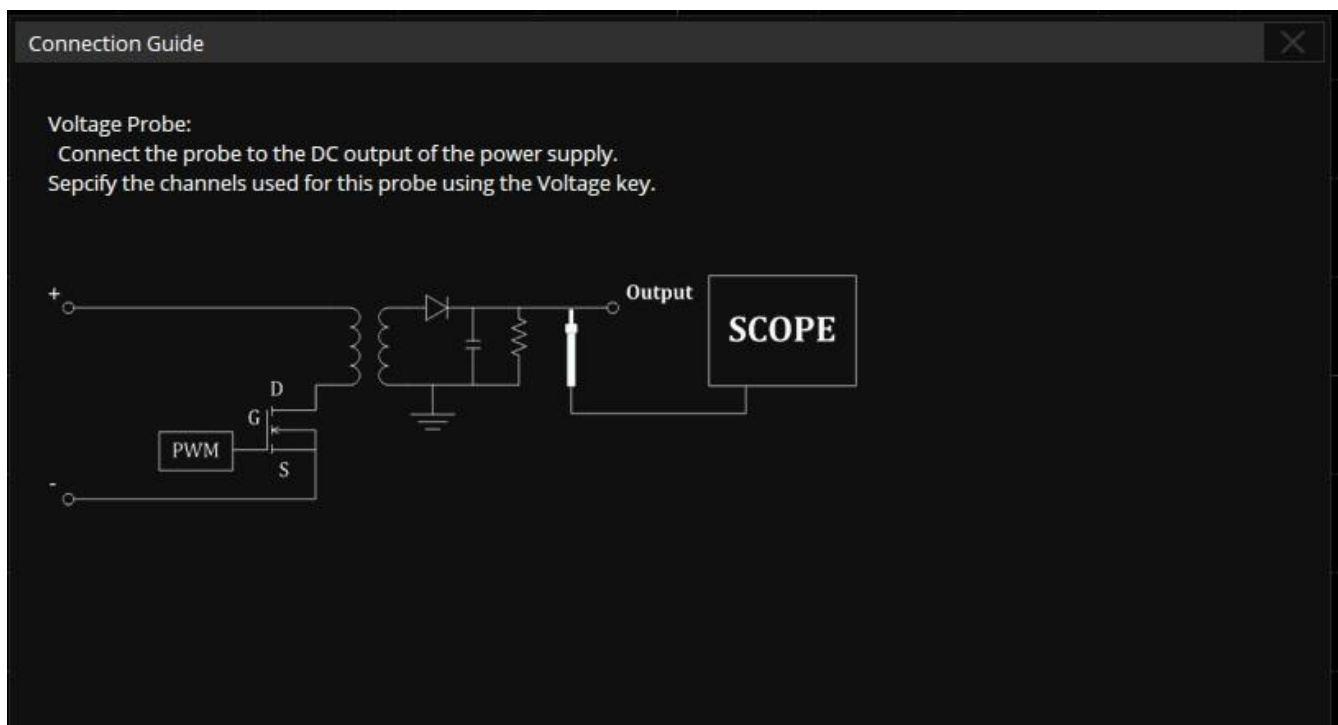

Figure 19.18 Connection Guide
4. Touch **Connection Guide** to display a diagram illustrating the procedure setup. See figure 19.18